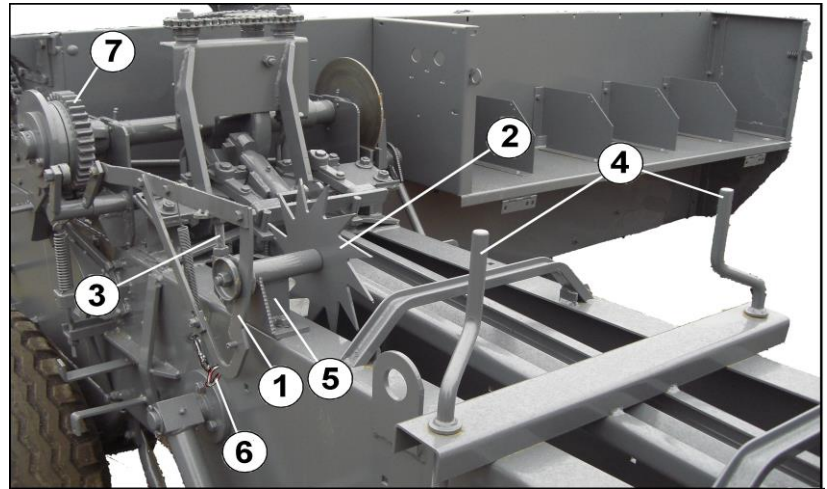

Fig. 4 / ter
4. Completely lift lever 1 shown in Fig. 4/ter by turning metric wheel 2 in Fig. 4/ter to engage the binder.